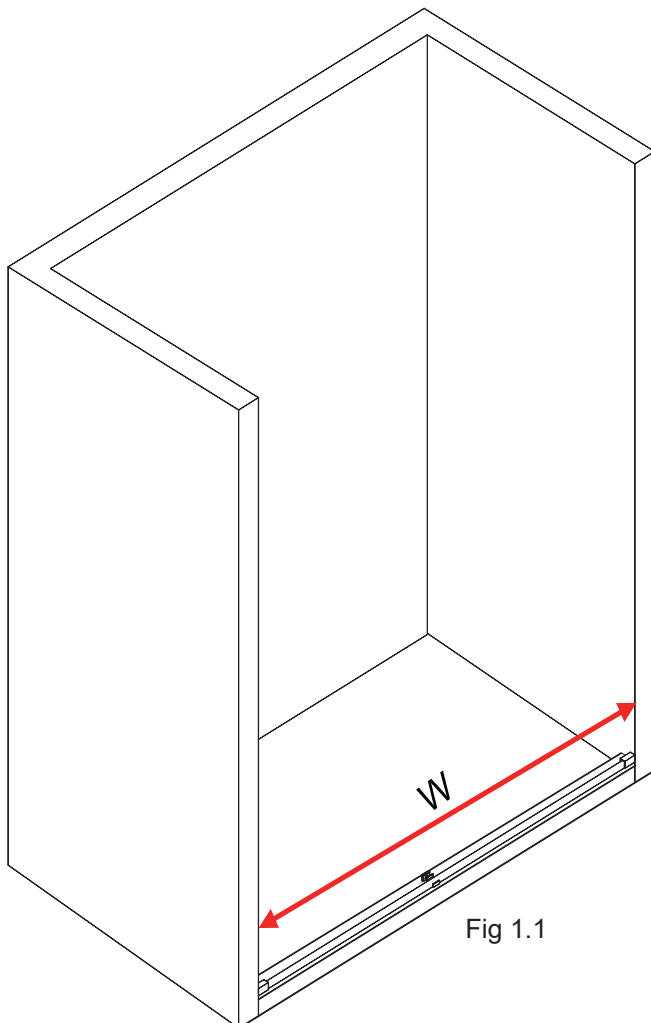

Fig 1.1
1. Measure the finished opening width at the bottom ("W"). (Fig 1.1)